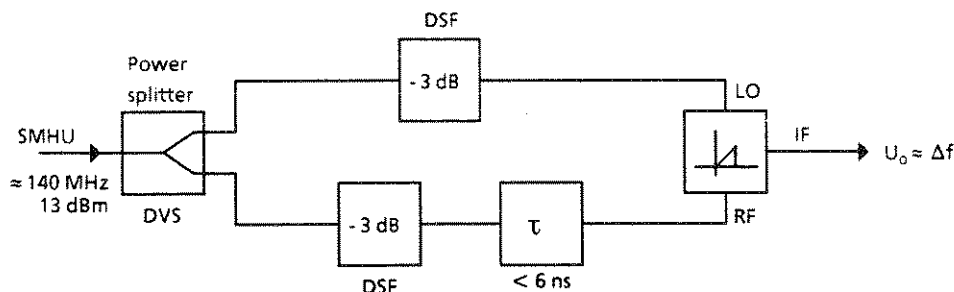

Fig. 3-4 Circuit diagram frequency discriminator
Measuring the BB-FM frequency response requires a frequency discriminator according to figure 3-4 for broadband demodulation and a generator as modulation source (3.1 item 21). Furthermore a vector voltmeter (3.1 item 22) for determination of the frequency response by defining the ratio of modulating signal to demodulated signal is necessary. Frequency response of the generator can thus be omitted during the measurement.